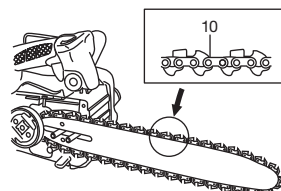

Fig. 4
4. Confirm the direction of saw chain (10) is correct as in the figure, and align the chain on the sprocket. (Fig. 4)